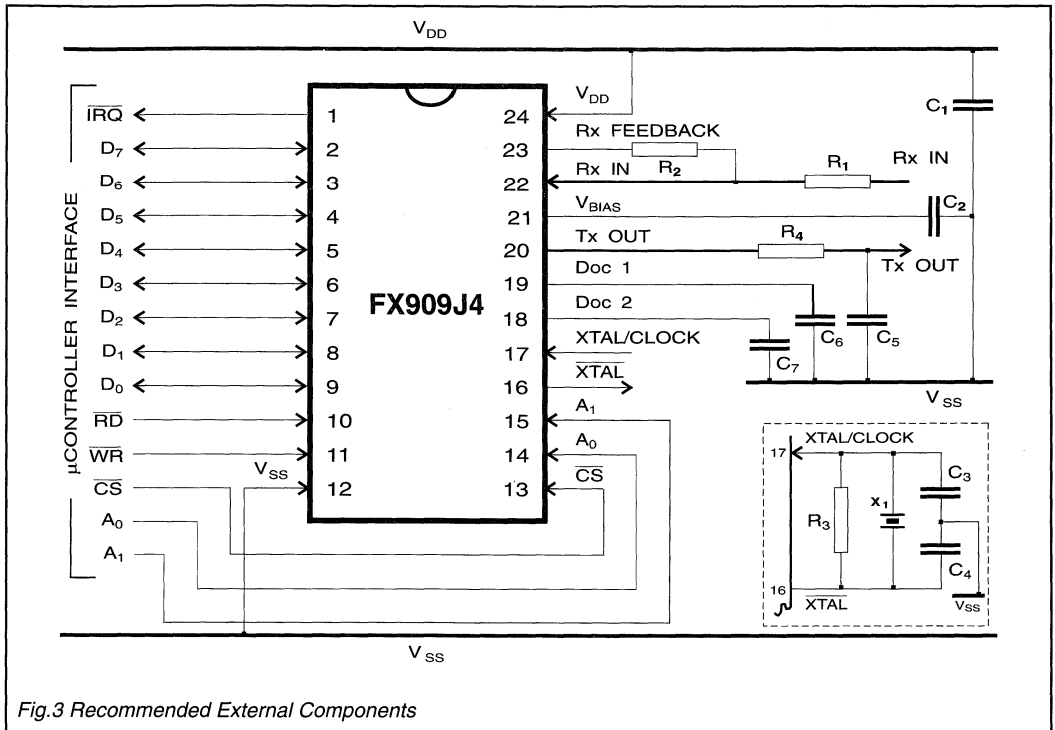

Fig.3 Recommended External Components
18	<p>Doc 2: Connections to the internal Rx signal level measurement circuitry. Capacitors as described in Figure 3 should be fitted between each of these pins and <math>V_{SS}</math>.</p>
- If the on-chip Xtal oscillator is to be used, then the external components  $X_1$ ,  $C_3$ ,  $C_4$ , and  $R_3$  are required as shown in Figure 3 (inset).